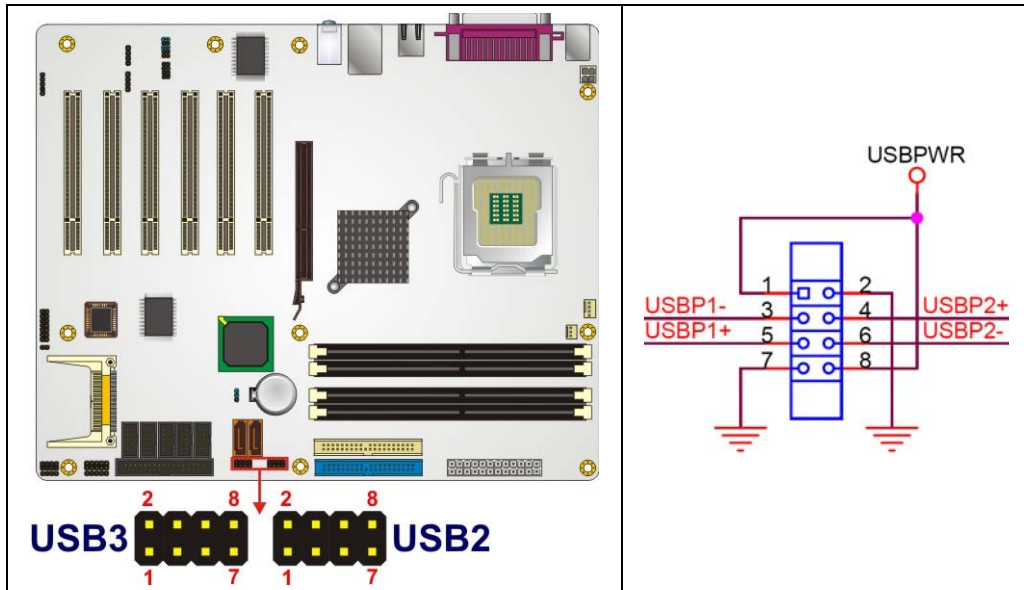

Figure 4-21: USB Connector Pinout Locations
- CN Location:** See **Figure 4-21**